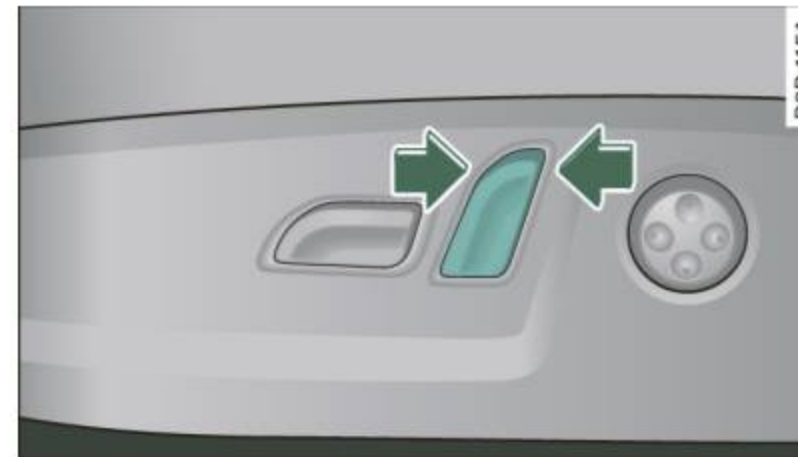

Fig. 72 Driver's seat: switch for seatback adjustment
- Push or pull the top of the switch in the same direction you like the seatback to tilt ⇒ fig. 72. ▶